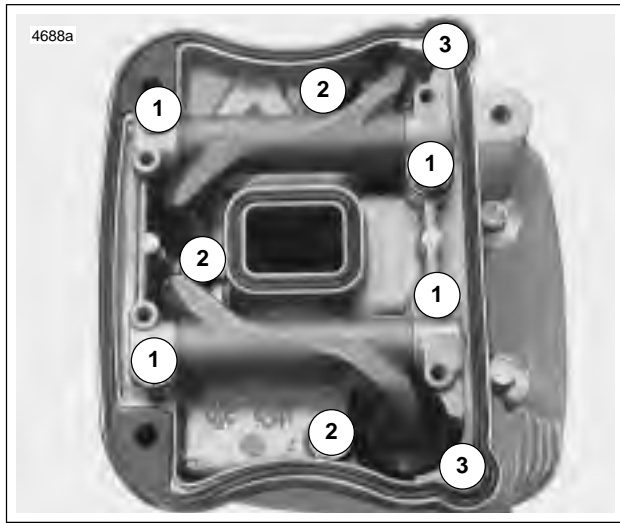

Figure 3-90. Lower Rocker Box Fasteners
9. See Figure 3-90. Install **new** gaskets with the bead facing up. Place lower rocker box assembly (with rocker arms and shafts) into position. Place push rods in rocker arm sockets.
10. See Figure 3-90. Install hardware attaching lower rocker cover to cylinder head in the following order. After loosely installing all fasteners, use a cross pattern on the four large bolts that fasten the lower rocker box to head to tighten and then torque to specifications. This will bleed the tappets. Finish tightening remaining fasteners. Fastener sequences, sizes and torque specifications are listed in Table 3-22.